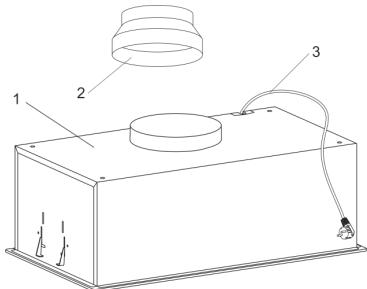
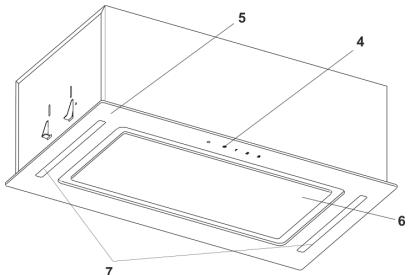

Fig. 3
Fig. 3.1
5.4 The Kitchen hood consists of the following components (fig.3 / fig.3.1).